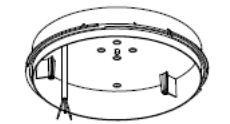

Fig 3
- Select a suitable cable entry point provided, or by drilling into the base. Route supply cable into the luminaire through selected cable entry ensuring that the hole is smooth and a grommet is fitted to maintain the IP rating of the luminaire – Fig 3